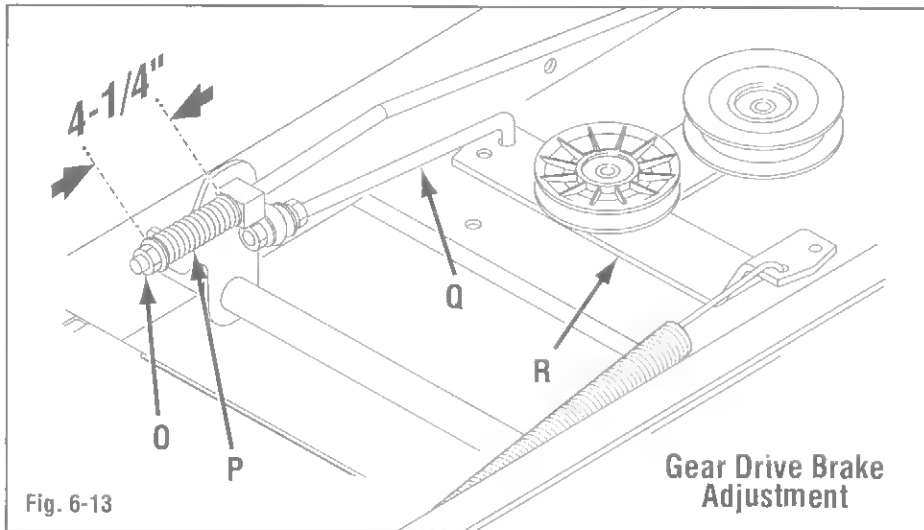

Fig. 6-13
- Adjust locknut (O, Fig. 6-13) so spring (P) measures 4-1/4" long.